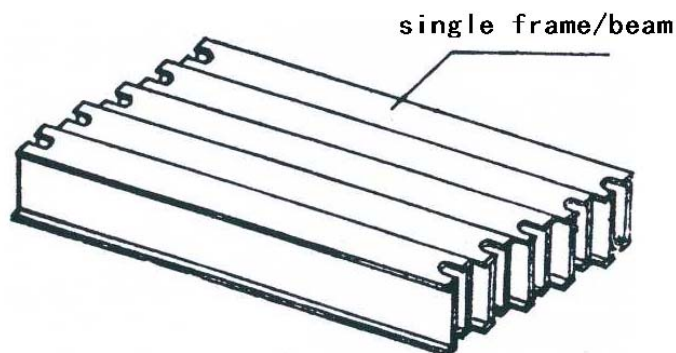

Fig. 5
(1) Single lower frames are placed according to figure 5